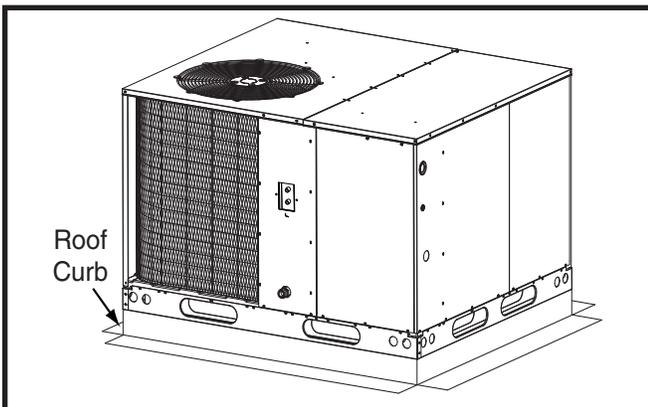

Figure 5. Roof Top Installation
- The appropriate accessory roof curb (Figure 5) must be installed prior to unit installation. The roof curb must be square and level to ensure proper condensate drainage. **Please follow all instructions provided with the kit.**